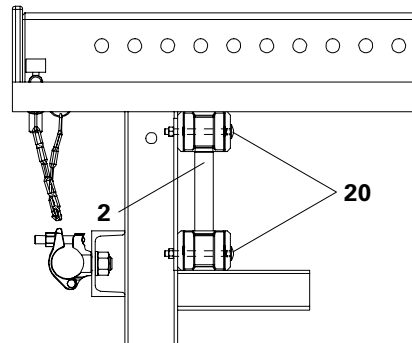

Fig. A1.09
- Hex. Wood Screws DIN 571 8 x 80 (86) or M8 x 180 MU (85) for double girders.
- (Fig. A1.09 + A1.12)
- F. H. Bolt DIN 603 M8 x 100, MU (20)
- Lattice Girder GT 24 (2) (Fig. A1.09)